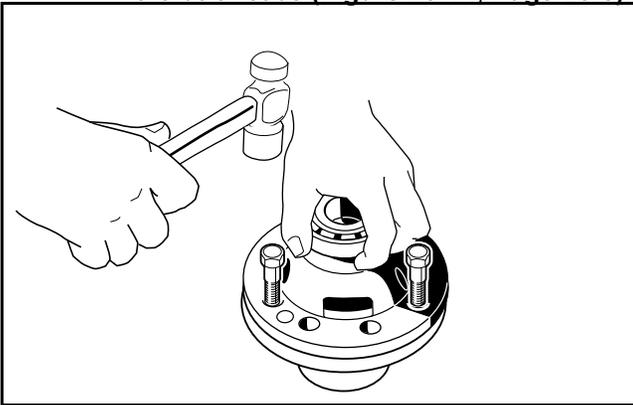

Figure 28-14 Separate Housing
- 8.3. Separate the differential gear case housing. If necessary, install two of the hex bolts (removed previously in step 8.1) into the differential gear unit and, while holding the unit slightly above the work area, lightly tap the bolt heads (Figure 28-14, Page 28-8). Remove the two bolts.